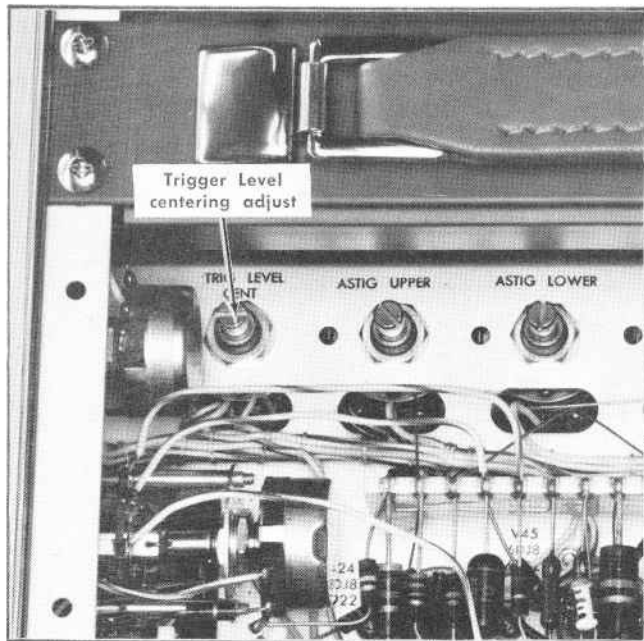

Fig. 6-35. Location of Trig Level Cent adjustment (step 36).
d. While switching the TRIGGER SELECTOR switch back and forth between + and —, adjust the Trig Level Cent Adjust R23 (see Fig. 6-35) so that the display is properly triggered, with the trace starting on a positive slope when the TRIGGER SELECTOR slide switch is set to + and on a negative slope when the slide switch is set to — (see Fig.